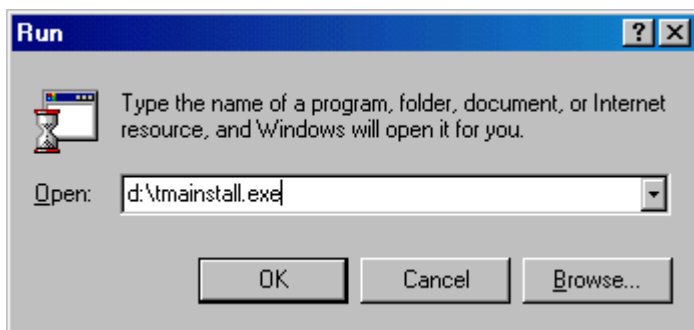

Figure 6. Installing the True Mold Angle Software
3. Select **Run**. The dialog box shown in Figure 6 is displayed.